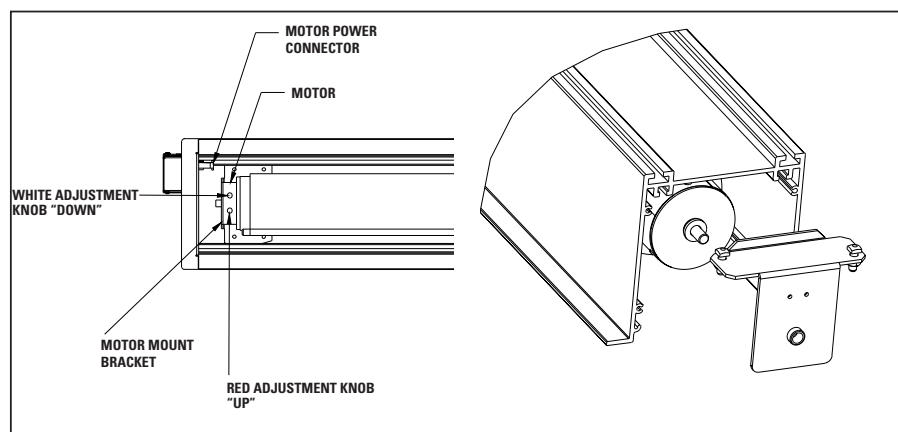

FIGURE 2
2. When the screen stops, turn the white **"down"** limit knob (Fig.2) one turn counterclockwise. Test by raising picture surface approximately two feet, then lower again. Repeat until desired picture surface position is attained.
3. Turn the white **"down"** limit knob (Fig.2) one turn clockwise. Test by raising picture surface approximately two feet, then lower again. Repeat until desired picture surface position is attained.